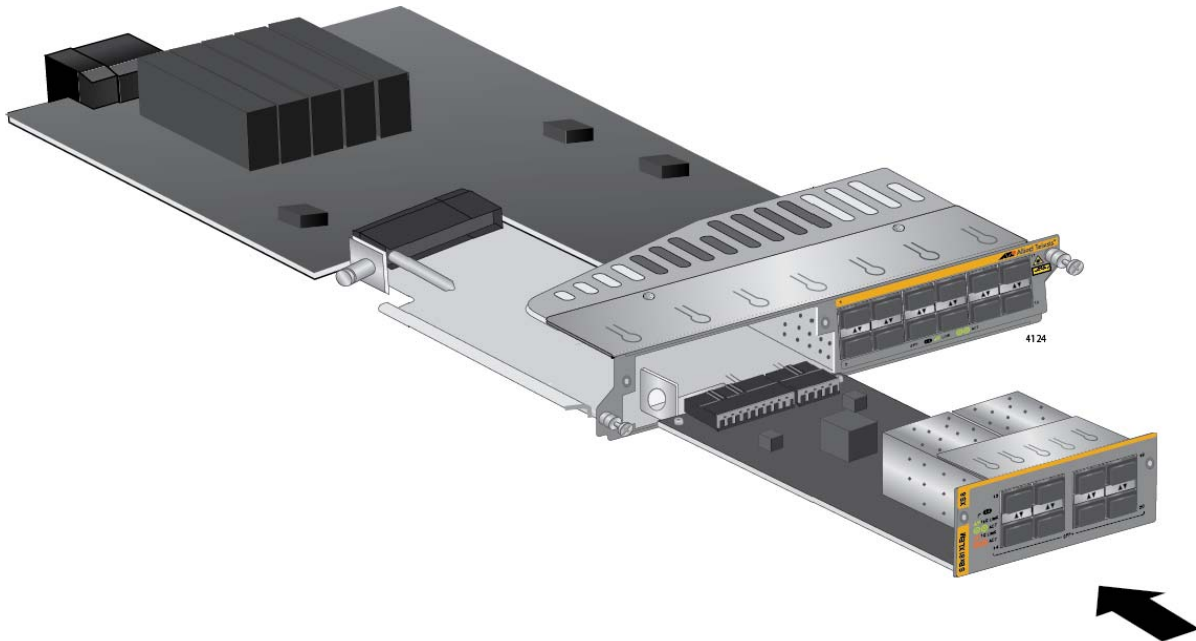

Figure 79. Sliding the Expansion Module into the AT-SBx81XLEM Line Card
- Carefully align the expansion module in the slot, as shown in Figure 79, and slide it into the line card.